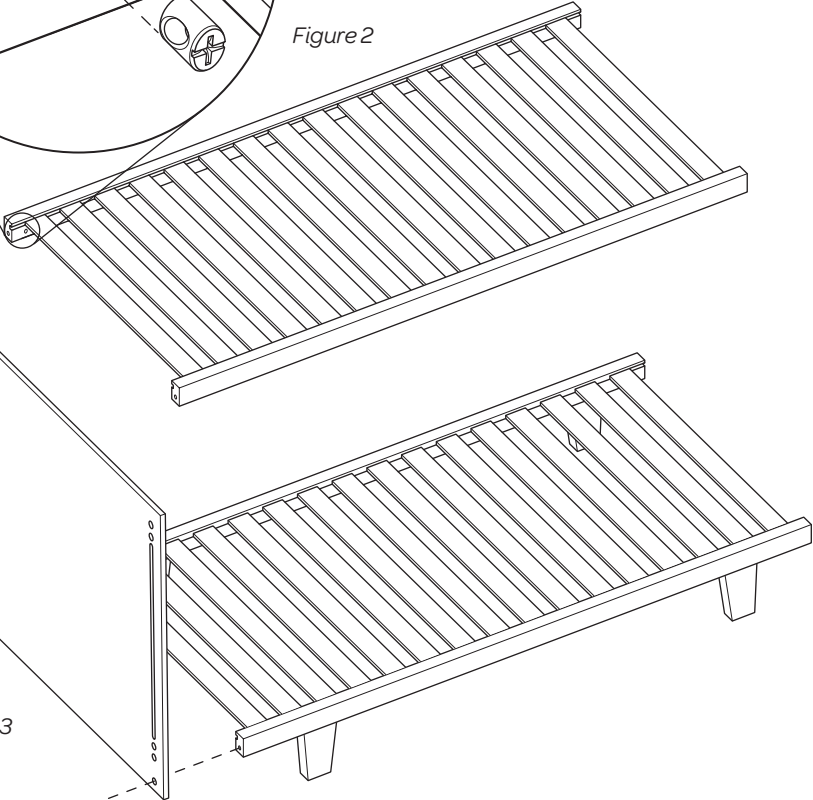

Figure 3
- Step 1** Insert bolts in the lowest bolt holes of the bed end (Fig.3) and align with the holes in the ends of the carrier rails on the bed base. Ensure the face which has the coving in the mesh slot is facing outwards.
Step 2 With the help of another person, attach the bed end to the bed base by threading the bolts into the nuts in the carrier rail (Fig.3). Leave bolts slightly loose until assembly is complete. To help the bolts locate the nut, support the weight of the bed end while you thread the bolt into the hole.